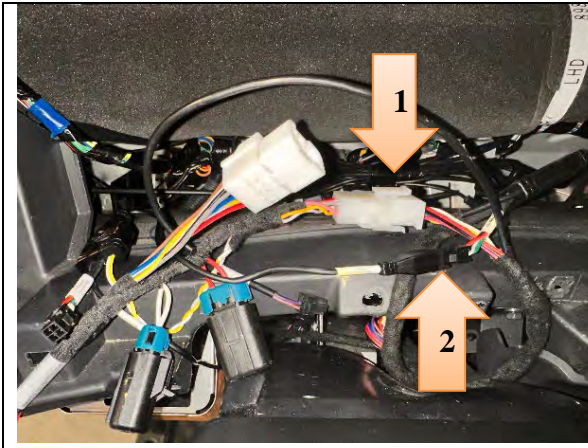

Figure 67
- a. **Mobileye 6:** Connect the camera cable to the T-Harness connector MH-2 and EyeWatch input connector MB-3. (See Figure 67.)